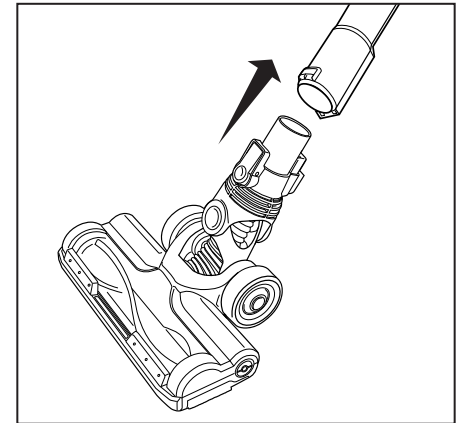

Fig. 2
2. Connect the female end of the metal wand to either floor nozzle or tools as required (Fig. 2).